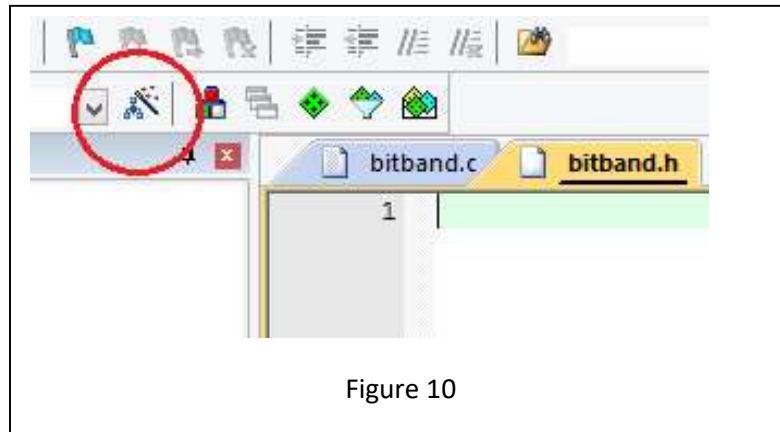

Figure 10
10. Click on the  icon on the top menu as shown in Figure 10.